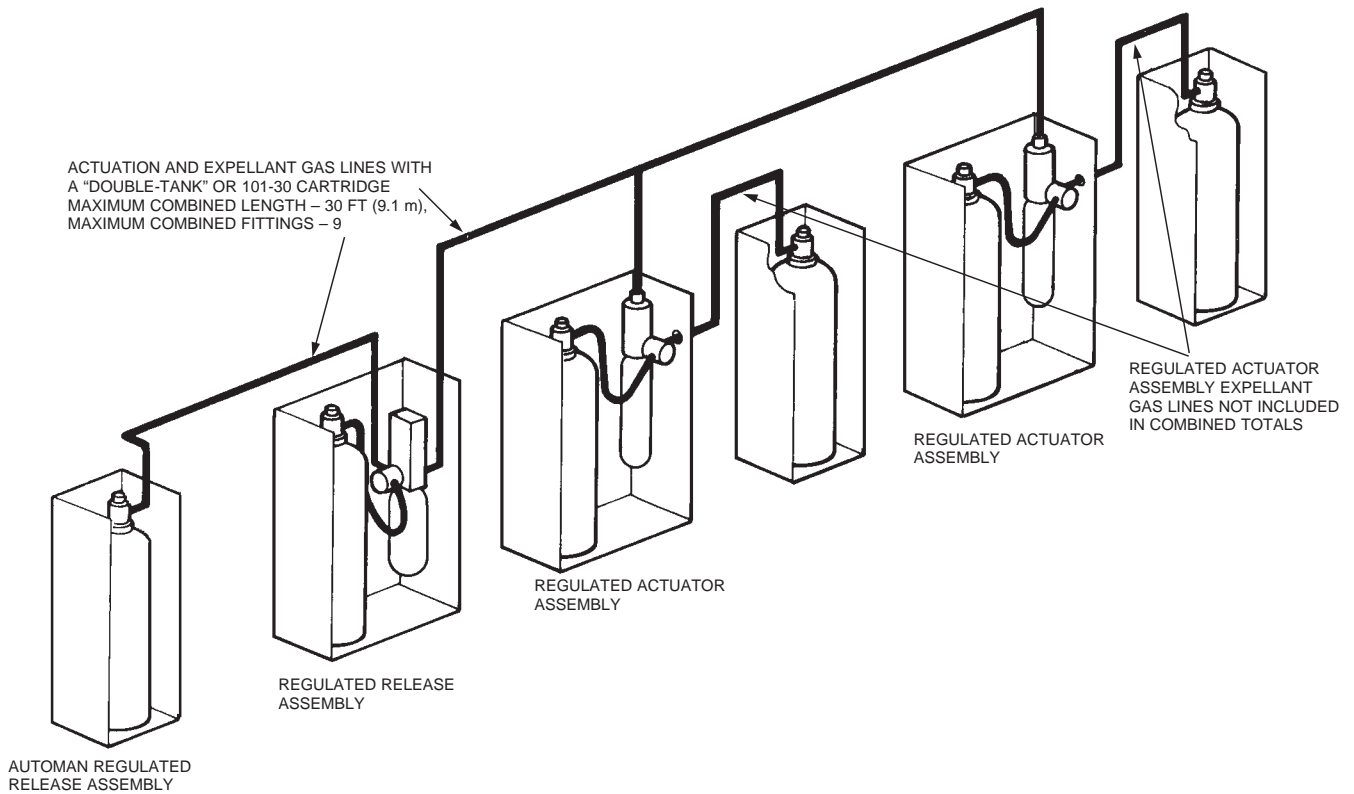

FIGURE 5-17
- If an expellant gas line is connected to the regulated release assembly along with an actuation gas line, the total combined length of the actuation and expellant gas line **must not** exceed 30 ft (9.1 m). See Figure 5-17.
4. If an actuation gas line is connected to the regulated release assembly along with an expellant gas line, the total combined length of the gas lines **must not** exceed 30 ft (9.1 m) when using a “double-tank” nitrogen cartridge or a 101-30 CO₂ cartridge. See Figure 5-17.